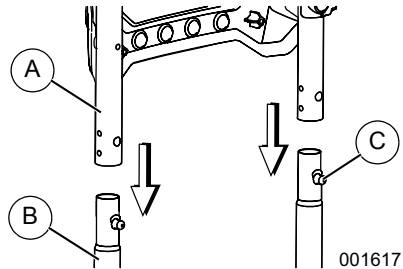

Figure 2-1. Insert Handle
1. See Figure 2-1. Place handle (A) onto handle supports (B). Push in latch buttons (C) and allow handle to slide into position. Button will lock handle into place.